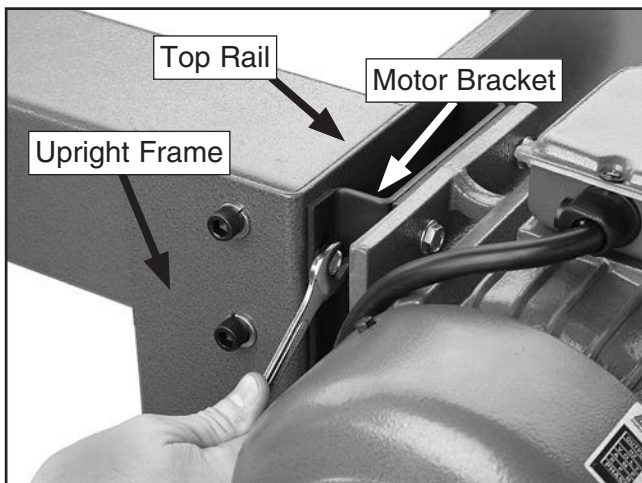

Figure 14. Motor bolt.
- Insert the $\frac{5}{16}$ "-18 x $\frac{3}{4}$ " flange bolt through the motor bracket, upright frame, and into the top rail, as shown in **Figure 14**. Do not yet fully tighten the flange bolt.